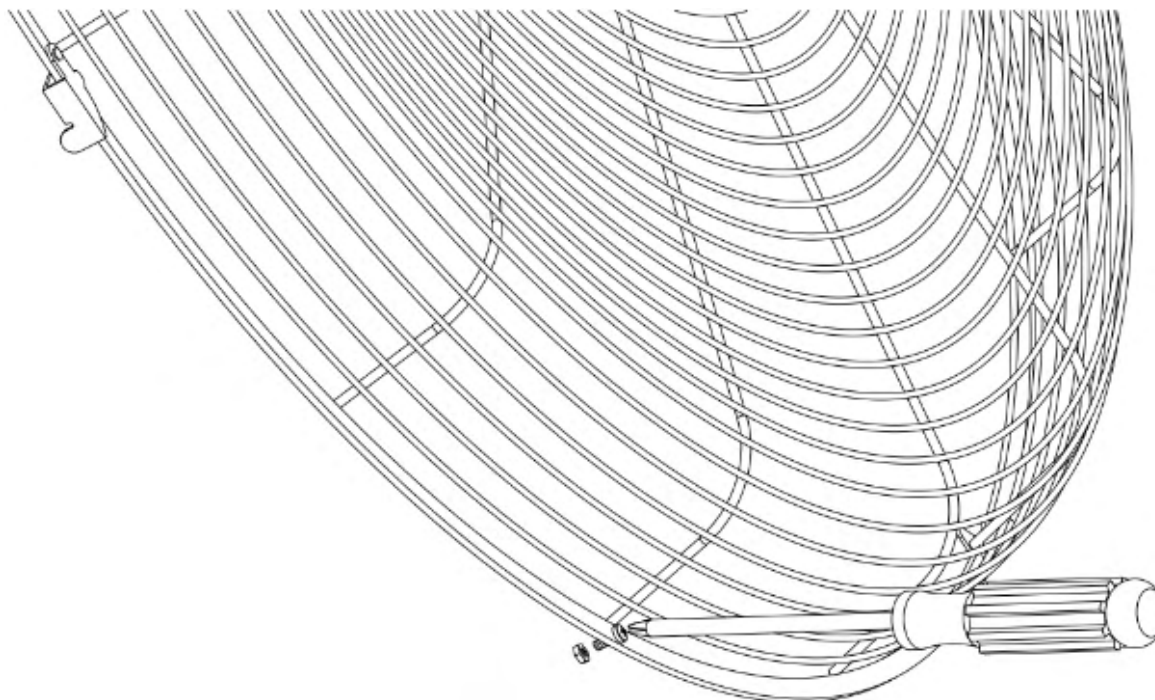

Fig. 5
5. Loosing the screw & nut on the edge of front safety grill. (Fig.5)